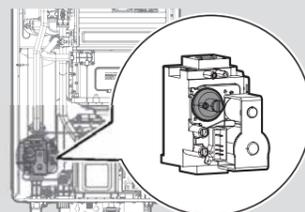

Figure 8. Set Screw Location
- Fully open several hot water fixtures and set the water heater to operate at 1-stage MIN mode (refer to page 8). Measure the CO₂ value at low fire. If the CO₂ value is not within 0.5% of the value listed in Table 2, the gas valve set screw will need to be adjusted. If adjustment is necessary, locate the set screw as shown in Figure 8. Using a 5/32 in or 4 mm Allen wrench, turn the set screw no more than 1/4 turn clockwise to raise or counterclockwise to lower the CO₂ value.